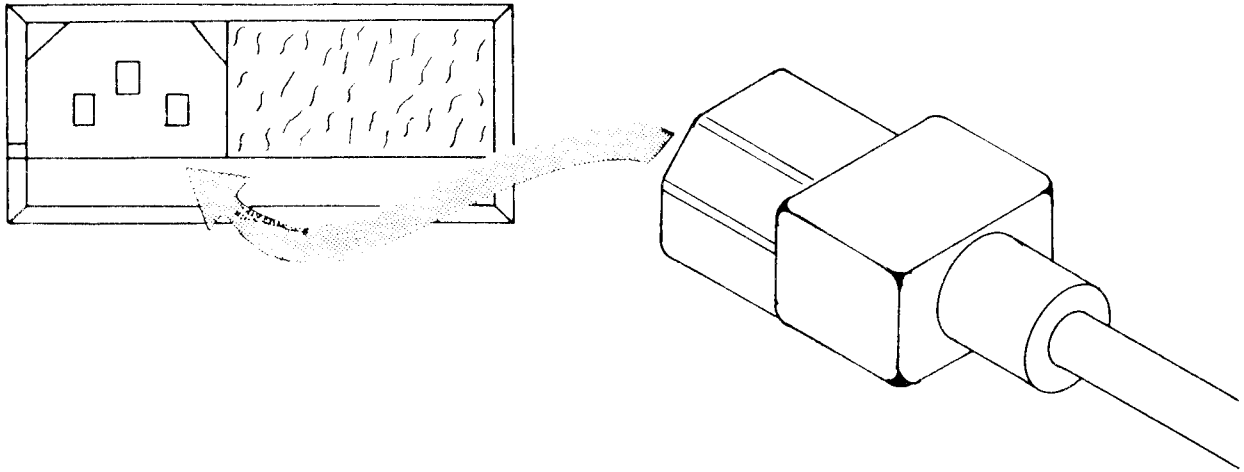

Figure 53. Plug Power Cord Into 610B Receptacle
- c. Plug the female connector on the AC power cord into the AC power receptacle on the rear panel of the 610B (see Figure 53).